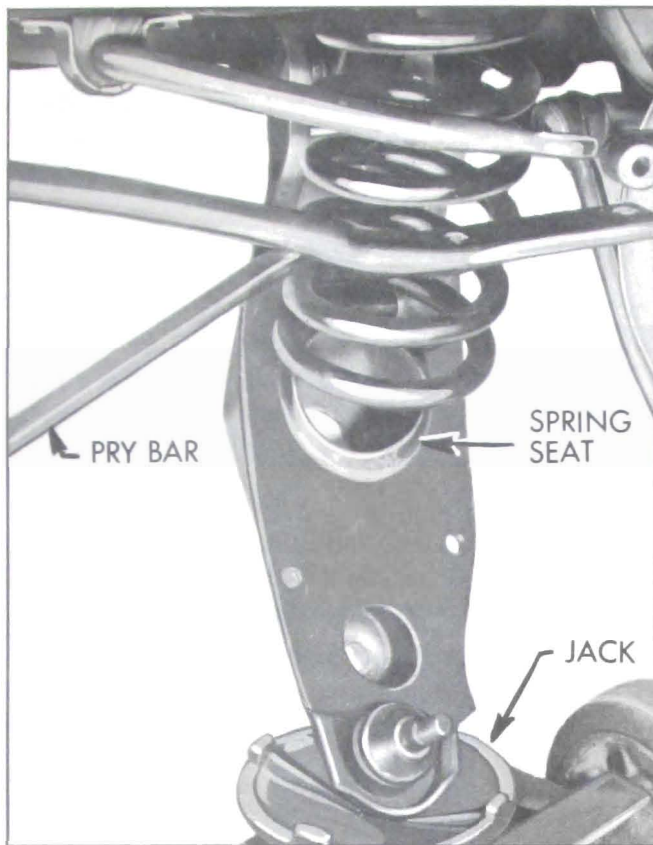

Figure 7-16—Prying Spring Off Its Seat
9. Carefully lower the jack supporting the lower control arm to release the spring. With the jack all the way down to the floor it still may be necessary to pry the spring off its seat on the lower control arm with a long pry bar. See Figure 7-16. Caution should be exercised in handling this loaded spring while still attached.